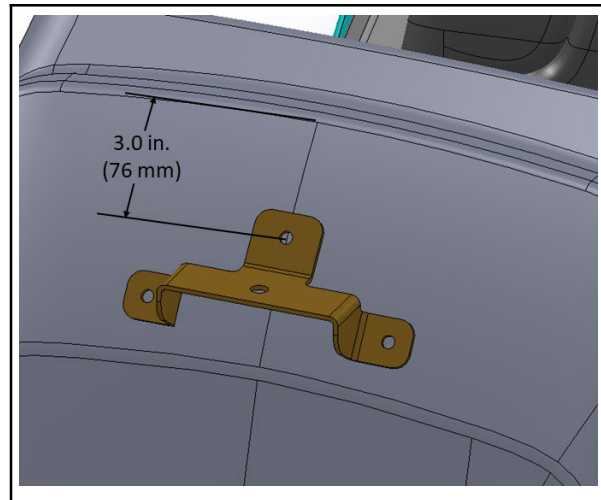

FIG. 4
- Use the blue light front mounting bracket (3) as a template on the front shroud and measure/mark the locations for the three 0.375 in. (9.5 mm) holes onto the front shroud. (Fig. 4)